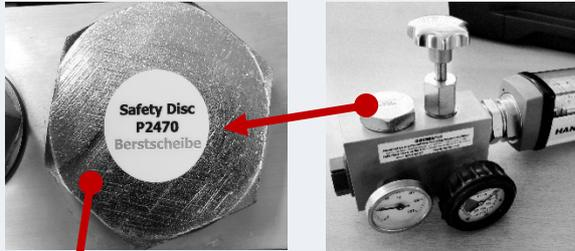

Figure 11: Power meter with burst pressure protection
1. Remove the locking screw from the power meter (*see Figure 11/ 12*)